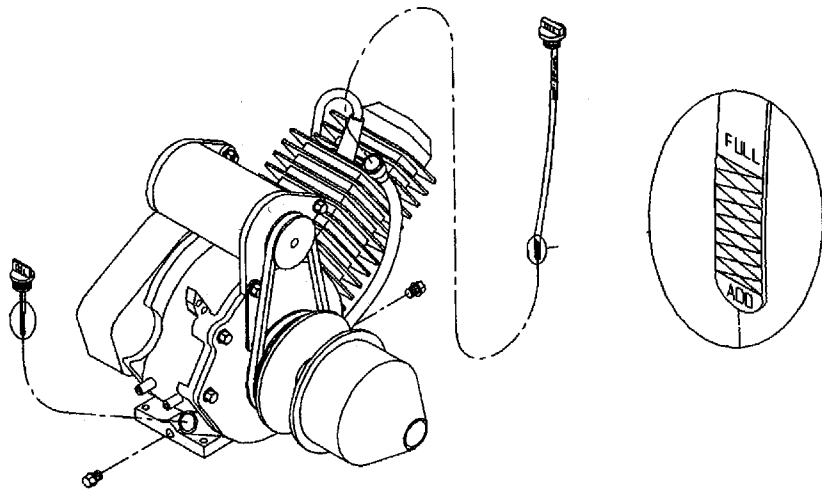

Figure 5-2 Location of Crankcase Dipstick and Drain Plug
- Clean area around oil drain plug. Next, slide oil drain pan below drain and then remove oil drain plug, (figure 5-2).